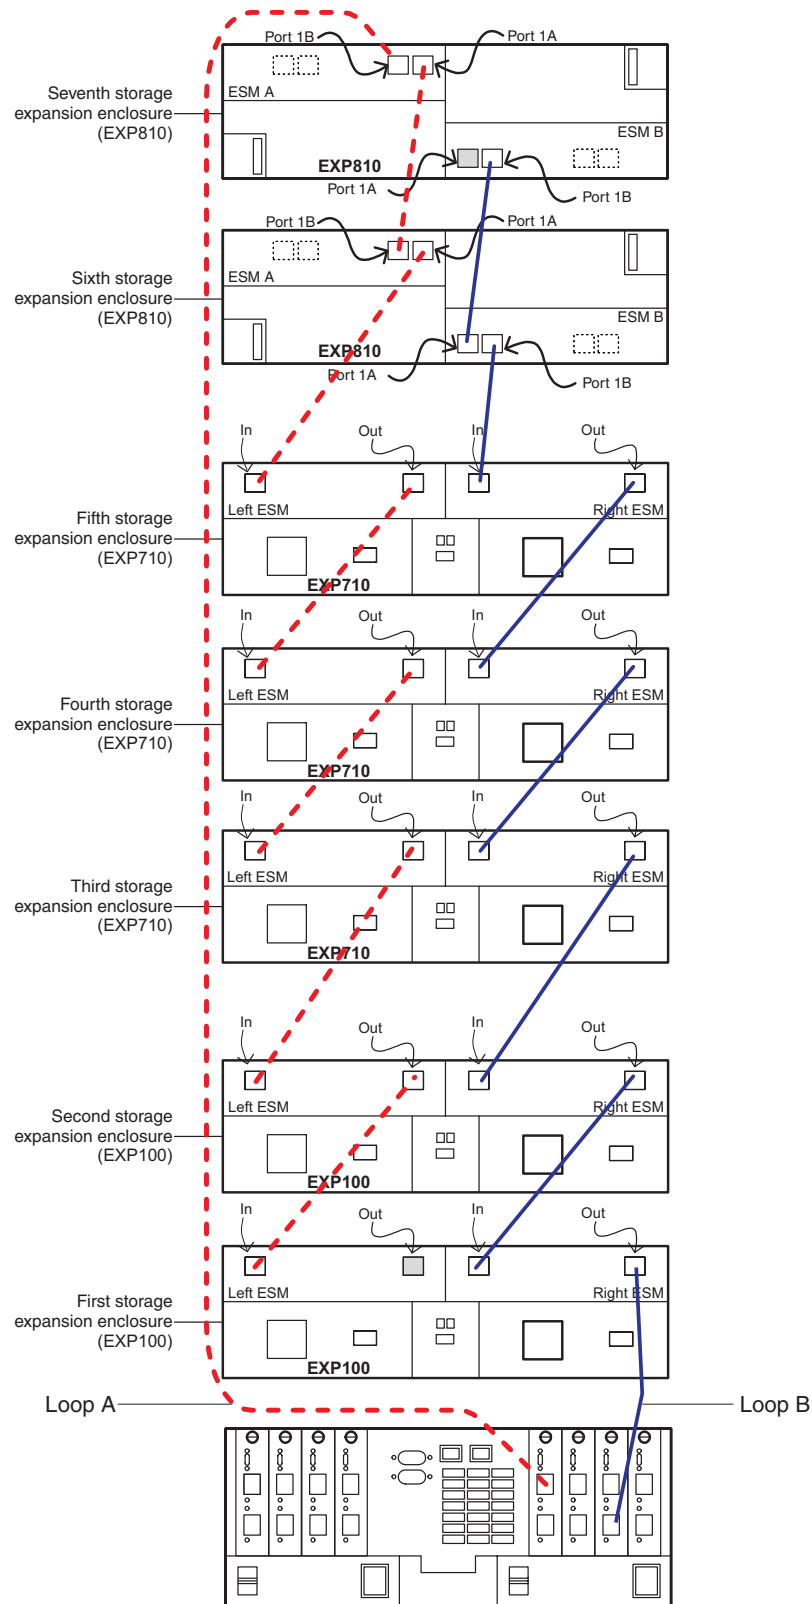
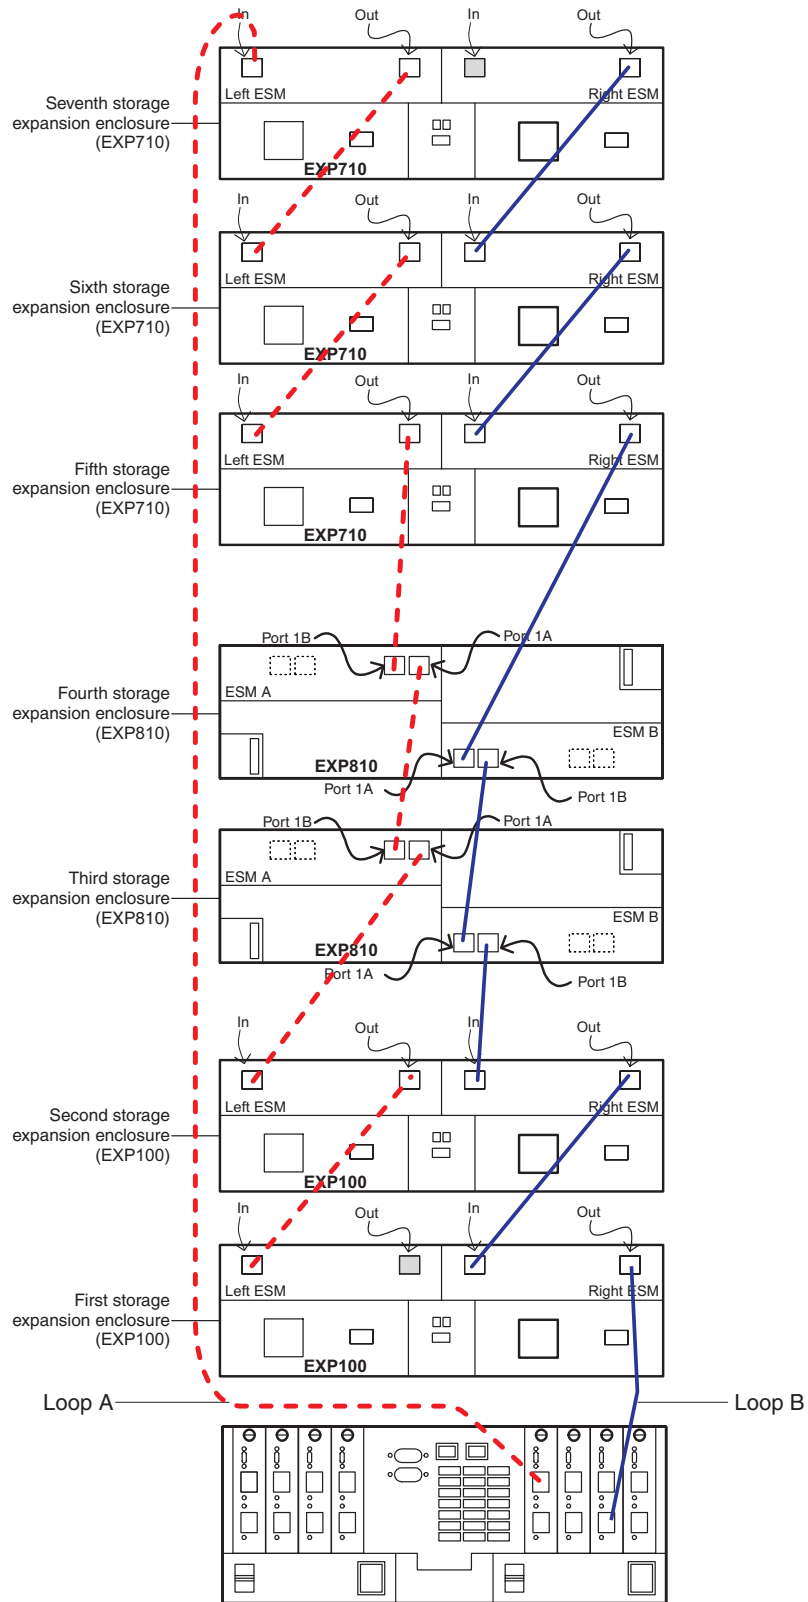
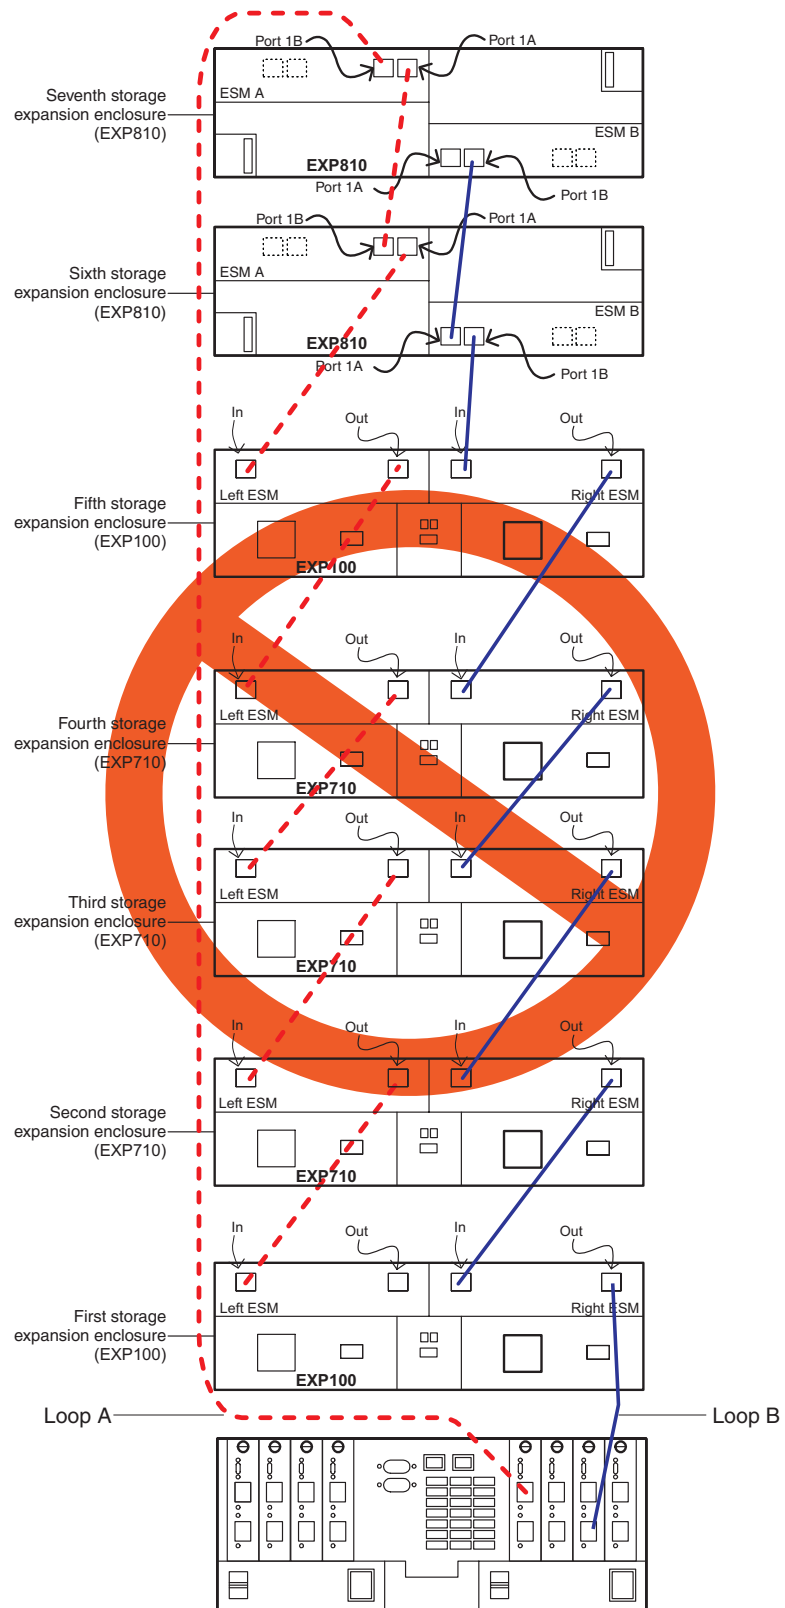
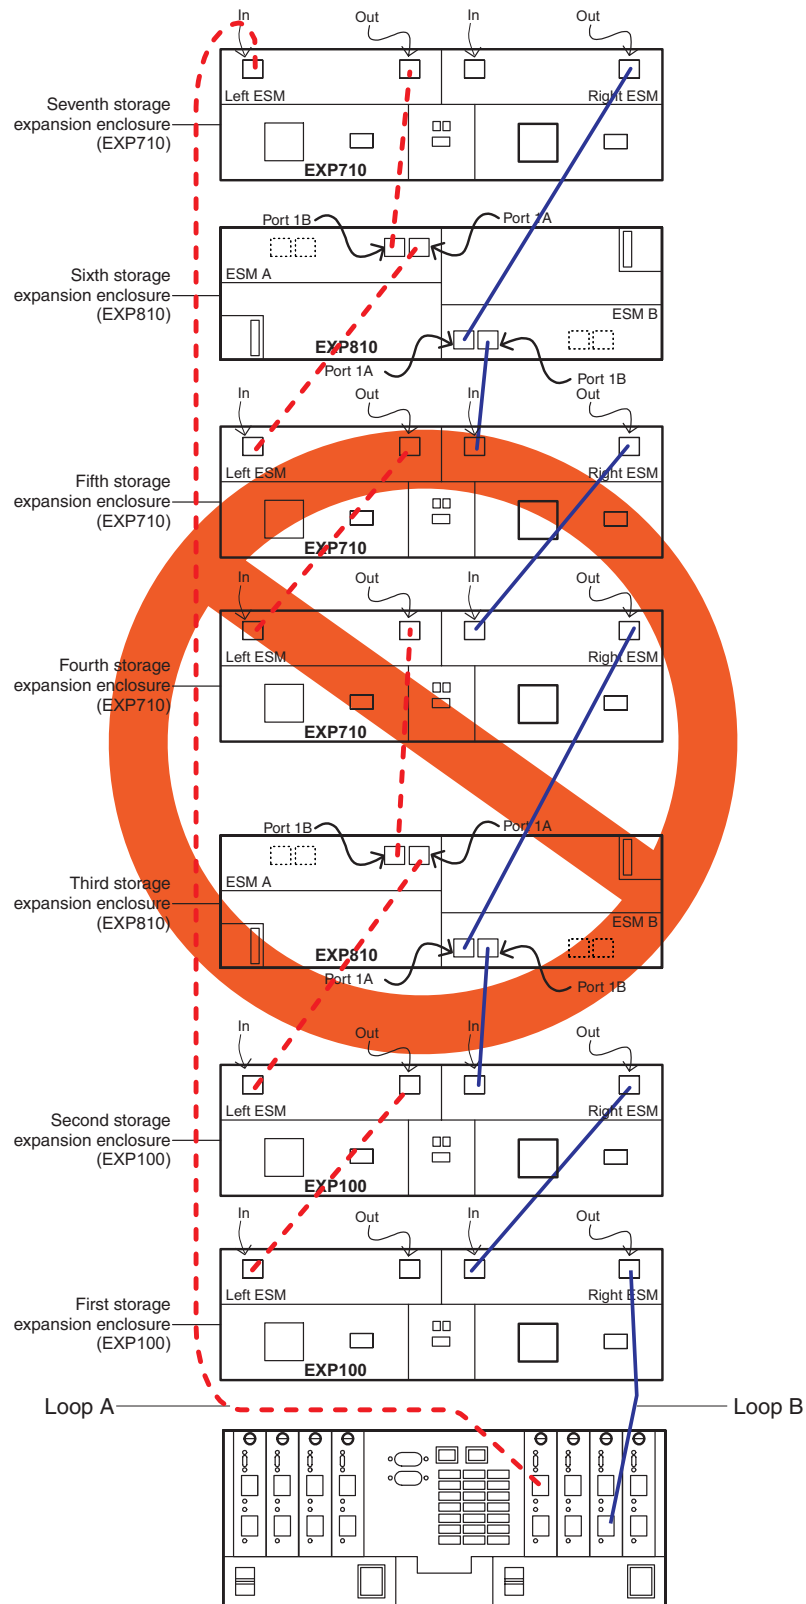

Figure 11. Supported cabling for an intermix of EXP100, EXP710, and EXP810 storage enclosures (example 1)
Figure 12. Supported cabling for an intermix of EXP100, EXP710, and EXP810 storage enclosures (example 2)
Figure 13. Unsupported cabling for an intermix of EXP100, EXP710, and EXP810 storage enclosures (example 1)
Figure 14. Unsupported cabling for an intermix of EXP100, EXP710, and EXP810 storage enclosures (example 2)
**Note:** You must cable all of the EXP810 storage enclosures together, followed by all of the EXP710 storage enclosures. Figure 11 on page 47 and Figure 12 on page 48 are examples of correctly cabling the intermix of EXP100 with EXP810 and EXP710 storage enclosures. Figure 13 on page 49 and Figure 14 on page 50 are examples of incorrectly cabling the intermix of these enclosures. One shows the EXP100 storage enclosures cabled between the EXP810 and EXP710 storage enclosures, and the other shows the EXP810 and EXP710 storage enclosures intermingled.